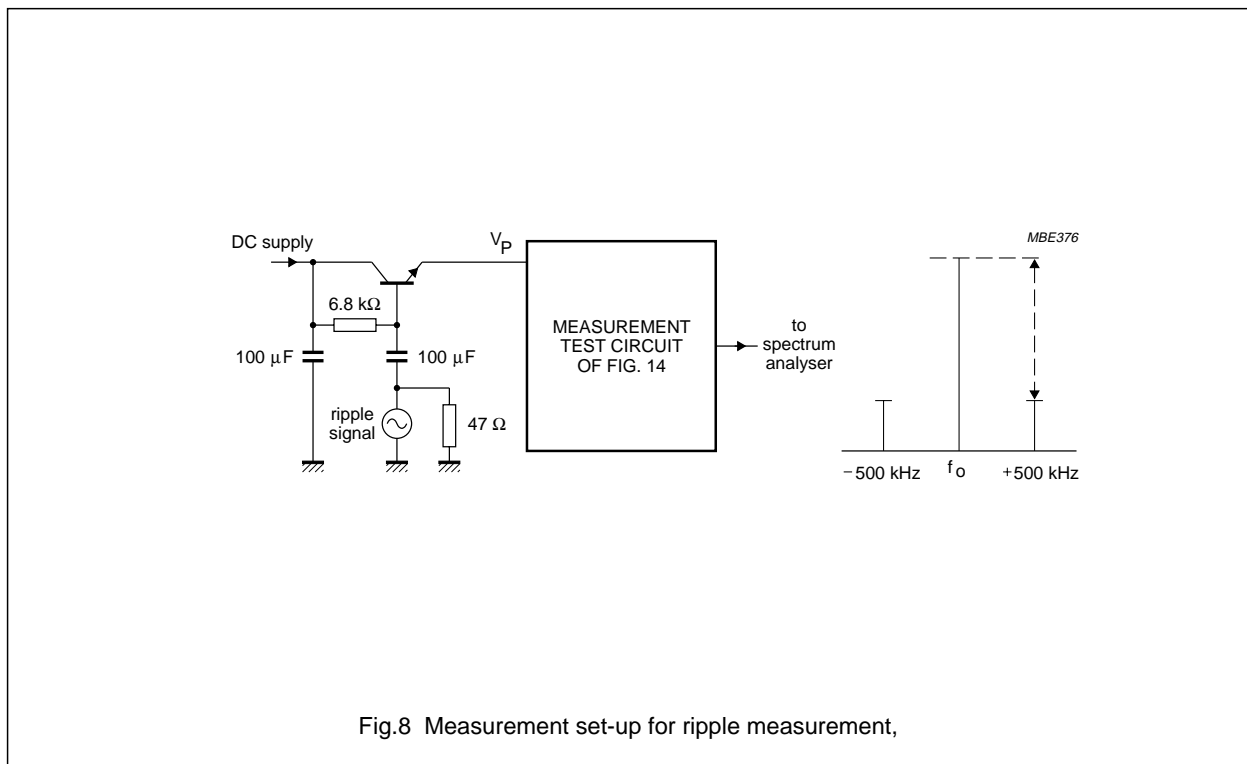

Fig.8 Measurement set-up for ripple measurement,
- The ripple susceptibility is measured for a 500 kHz ripple at the LO output with the set-up as illustrated in Fig.8. The level of the ripple signal is increased until there is a 53.5 dB difference between the LO carrier and the sideband components.